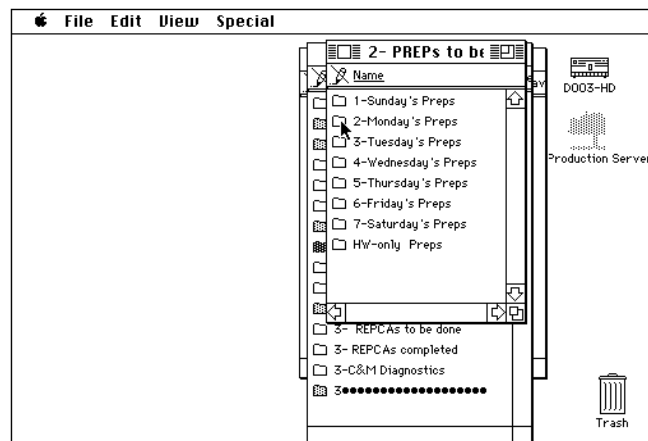

Figure 6
- 10.2 Position the mouse pointer on the "Preps" folder for the applicable day of the week and double click to open it (this example is for Monday). See Figure 6.